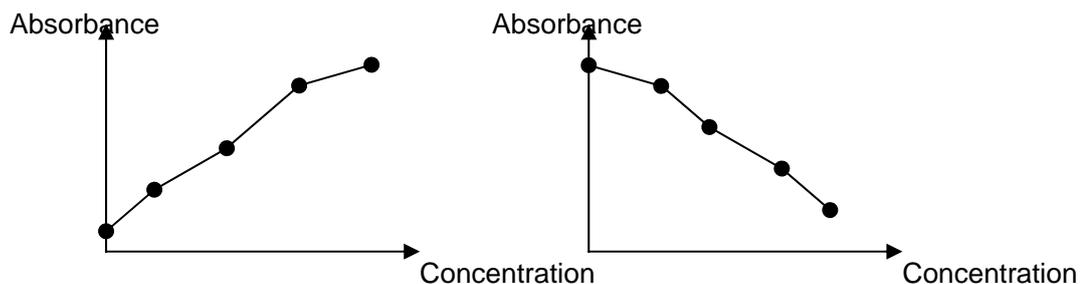

Figure 5-3 Non-linear regression
- 2) Non-linear regression (point to point): 2-8 standard preparations are permitted to set, take the lines between all the standard points (it should be a monotonous ascending or descending polyline) as calibration curve, as shown in Figure 5-3.